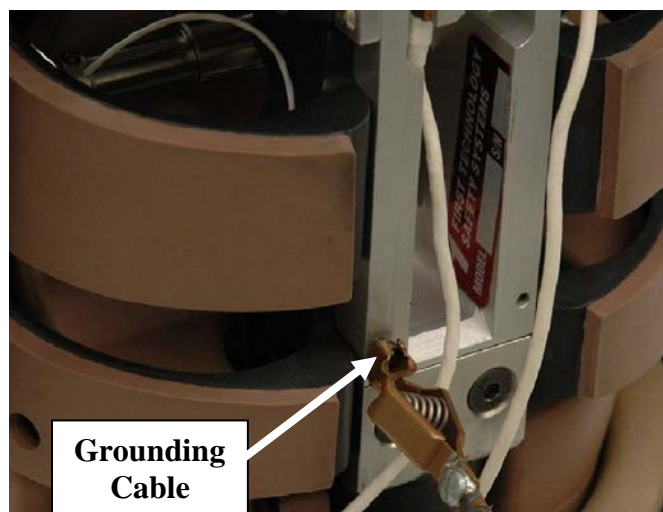

Figure 102. Grounding the dummy
- Remove the arm on the impact side, reinstall the jacket, and tape the sleeve of the suit to the dummy, assuring that it will clear the cables from the impact probe (Figure 102). The non-impact arm is positioned with the upper arm and lower arm perpendicular as shown in Figure 102.